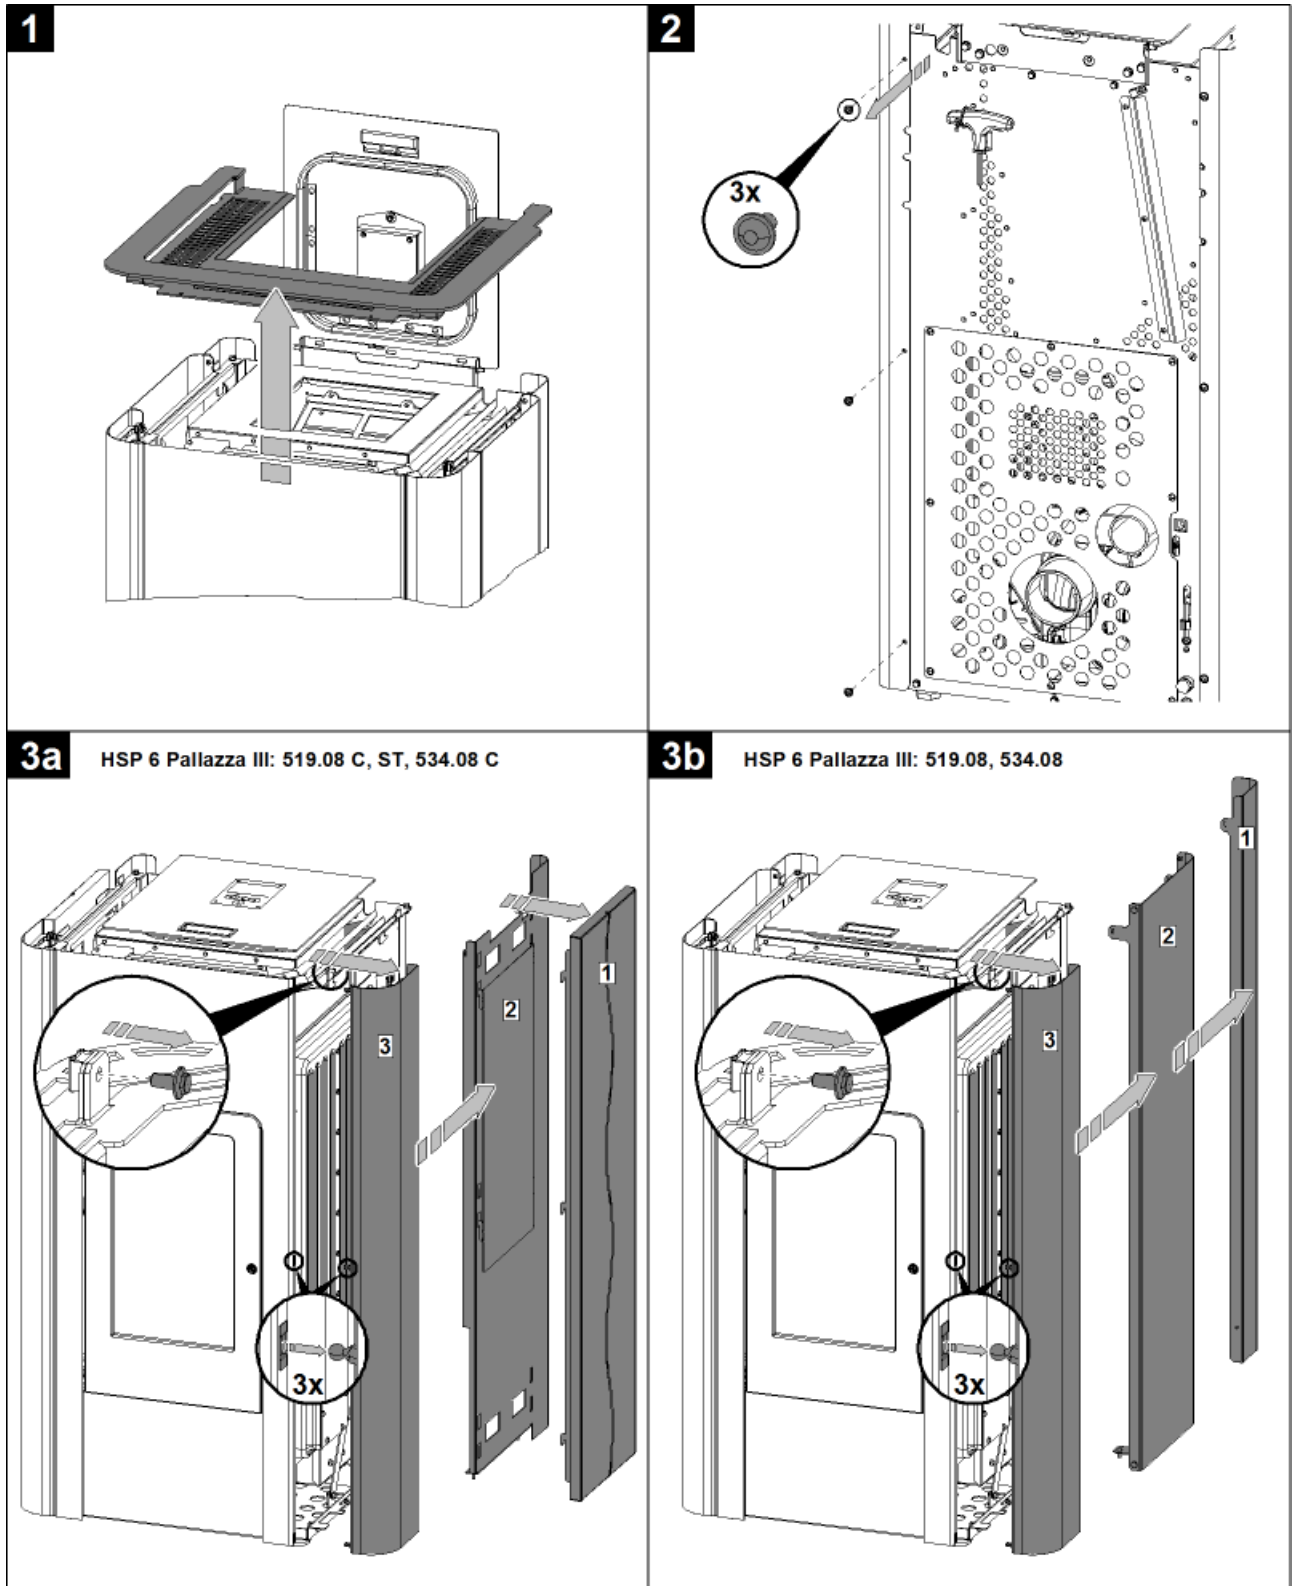

Figure 3a: Removing the side wall
- Carry out the cleaning as per the Fig. 3a+3b.